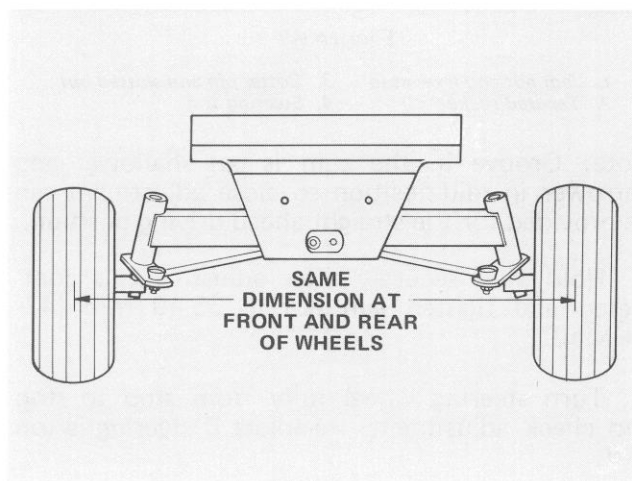

Figure 66
2. Loosen the jam nuts on both tie rods. Adjust both tie rods until center-to-center distance at front and back of rear wheels is the same (Fig. 66).